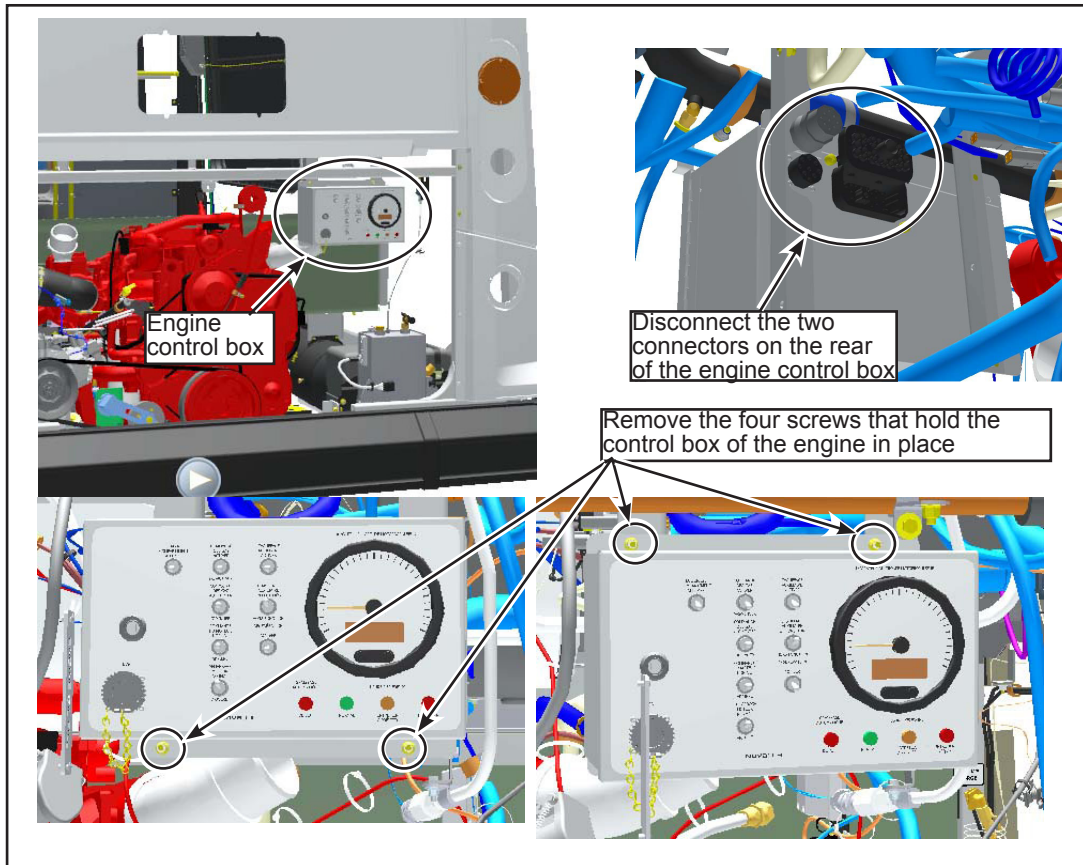

Figure 3 - Remove Engine Control Box
- 1.3. Open the rear engine door to remove the engine control box. Disconnect both connectors on the rear of the engine control box and remove the four screws that hold the engine control box in place (see Figure 3).